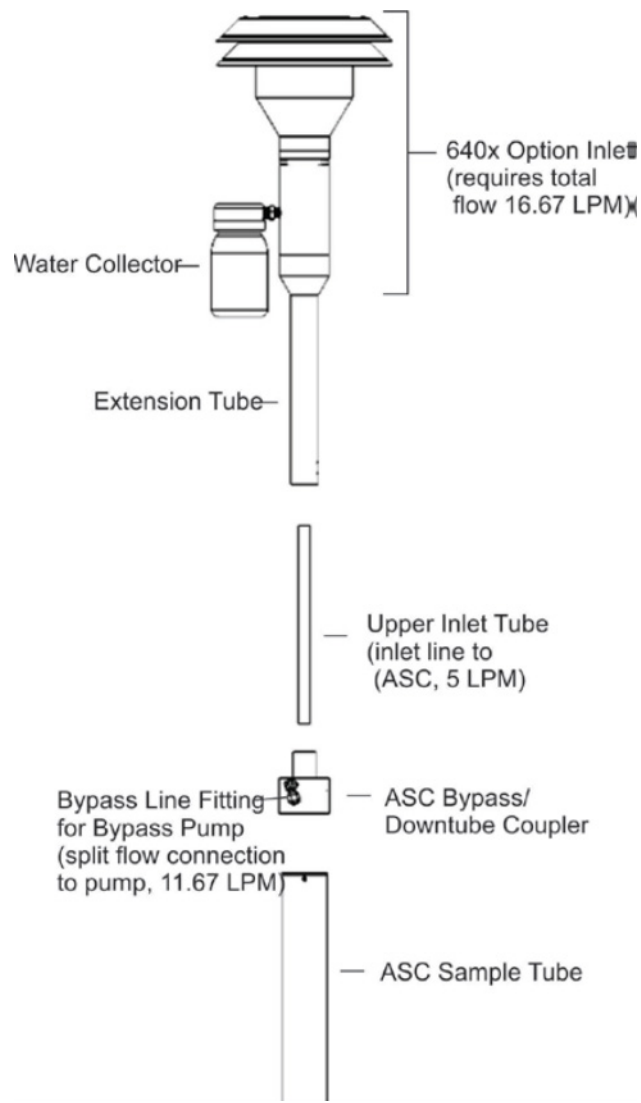

Figure 24. 640x inlet and ASC assembly.
4. Assemble the inlet and the ASC as shown in Figure 24, ensuring the parts fit snugly with no gaps. Note that if the instrument is to be installed in a shelter with roof penetration the inlet with the water collector should be left off for the time being.